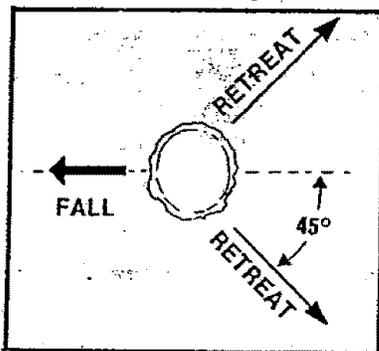

Figure 30
- Plan a clear retreat path to the rear and diagonal to the line of fall. Figure 30.